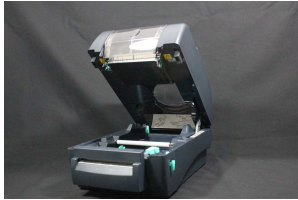

Figure 1
Step 1: Make sure the machine is turned off while loading all materials. To open the machine, gently pull the two light green cover lock tabs towards you. Lift the chassis. Place the hood prop on setting #2. Your printer should now resemble Figure 1.